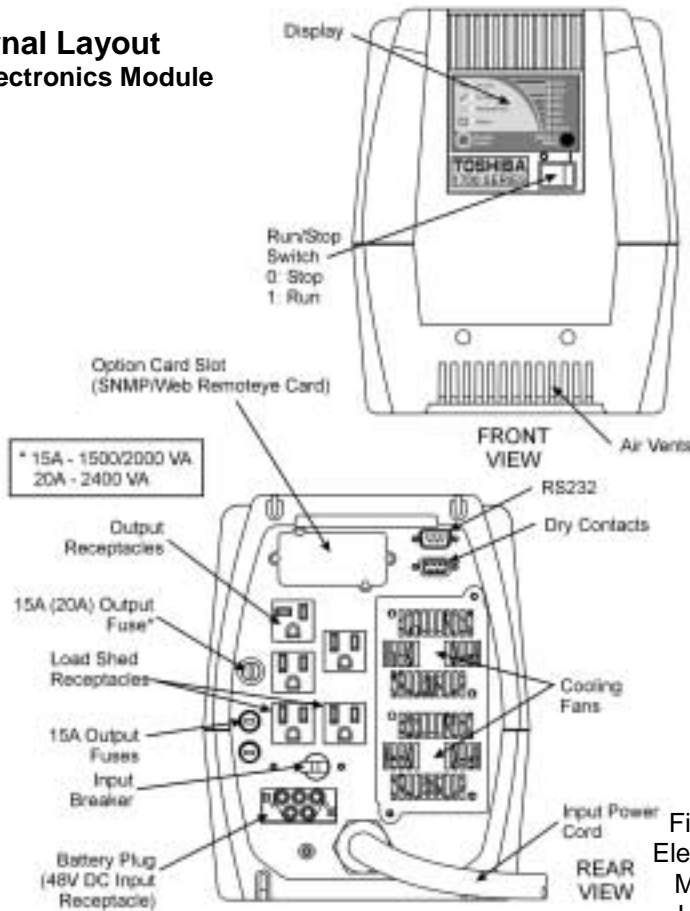

Figure 1
**Step 4:** Switch the input breaker to the on position (figure 1, page 9).
Once the modules have been connected as shown in the preceding section (UPS Connections, page 10) the UPS system is ready to be started. There are two ways to start the system: from AC input power (if present) or from batteries. If not already done, switch the input breaker on (figure 1, page 9). If the "AC Input" LED is lit, proceed on to "Starting when AC power is available". If the LED is not lit, there is no AC power available. If the unit is to be started when AC power is not available proceed to "Starting on DC power."
**Step 1:** Make sure the RUN/STOP switch is in the STOP position (figure 1, page 9).
The other option is to turn the UPS off completely. This means that in addition to the UPS’s inverter shutting down, **all power will be stopped to any equipment attached to the UPS.** To shut the UPS down completely switch the RUN/STOP switch to the STOP position. Then switch the input breaker off (figure 1, page 9). Once the input breaker has been switched off, all the LEDs should turn off. (If the RUN/STOP switch is in the RUN position when the input breaker is switched off, the unit will switch to battery backup mode. The unit will continue to run for as long as the available battery reserves can support the connected loads.)
The 1700 Series includes a load shed function. During battery backup operation, this function allows the load connected to two of the receptacles (figure 1, page 9) to be turned off in an effort to conserve power for more critical loads. The battery level at which these receptacles will be turned off, or "shed", can be set by the user (see "The Function Control Button", page 17). By default, this feature is configured so that the receptacles will remain on for the full battery backup time available (no "shedding")